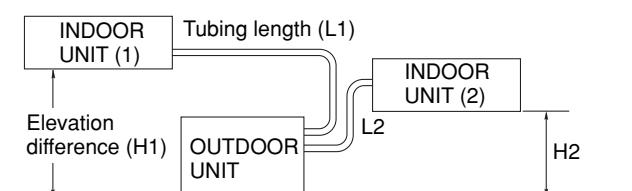

Fig. 3a
- install the unit within the maximum elevation difference (H_1 , H_2) above or below the outdoor unit and within a total tubing length (L_1+L_2) from the outdoor unit as detailed in Table 3 and Fig. 3a.